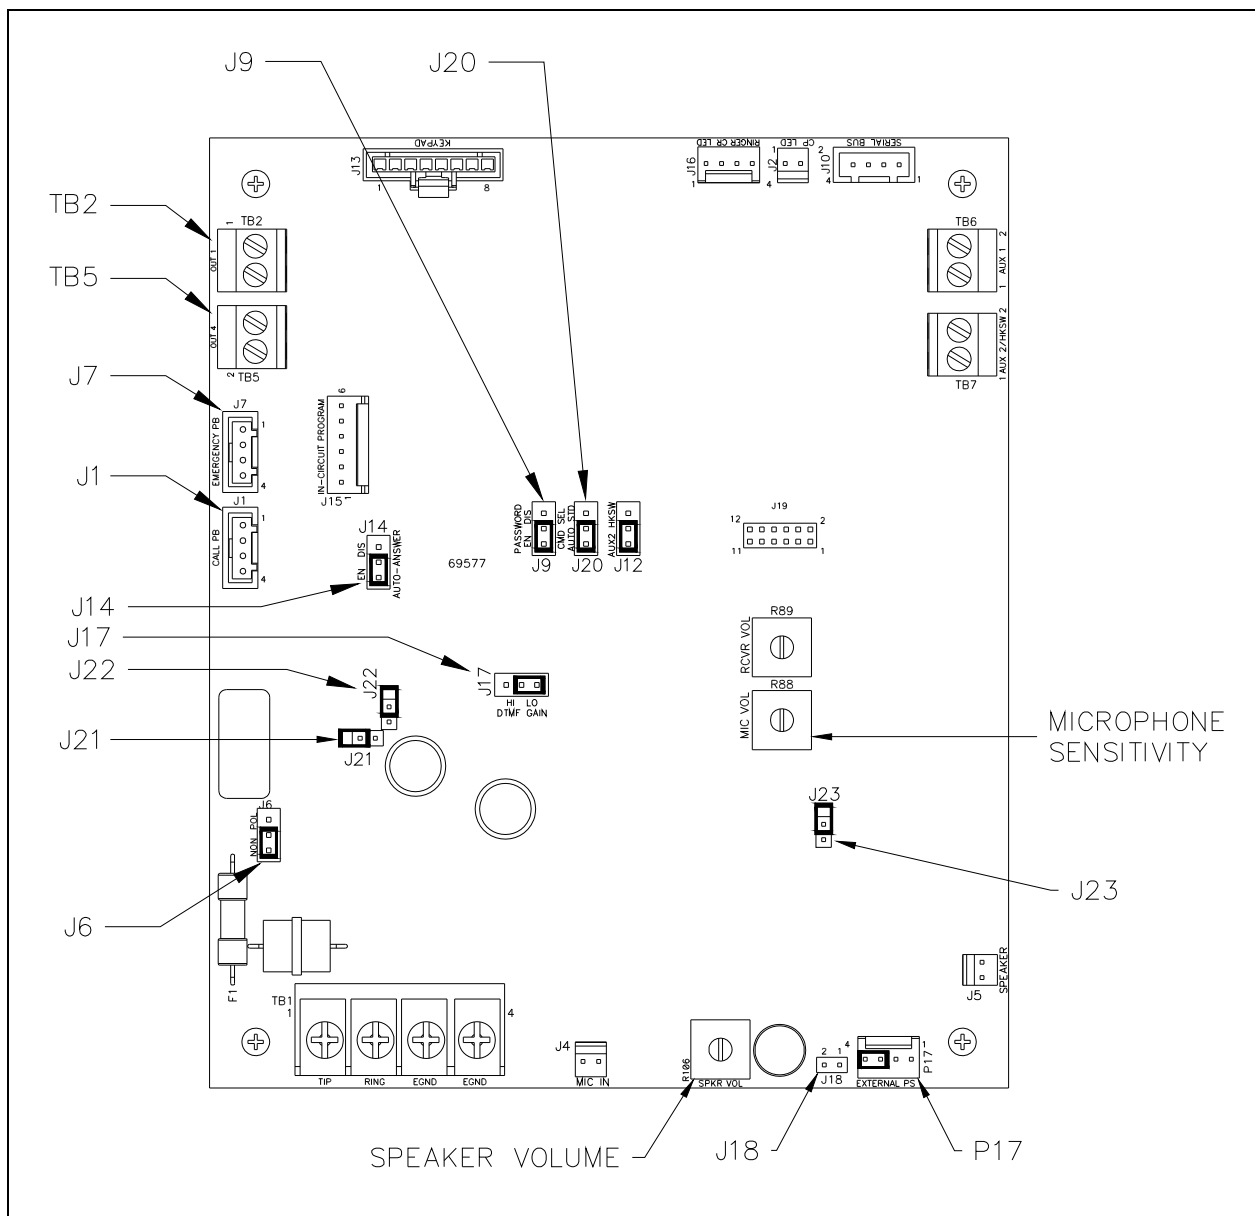

Figure 12. No. 69577-101 Emergency Telephone PCBA (Top View)
2. Adjust the audio levels, if necessary (see Figure 12 for the speaker volume and microphone sensitivity potentiometer locations).
2. Adjust the audio levels, if necessary (see Figure 12 for speaker volume and microphone sensitivity potentiometer locations).
The hardware configuration options are explained in the following sections and the necessary jumper settings are identified to enable or disable each option. Read each section and record the selected options (see Table 2) prior to making the necessary changes (see Figure 12 for the jumper locations).
Each telephone includes two isolated solid-state switches capable of switching a maximum of 125 mA at 48 V dc, or 80 mA at 28 V ac. TB2 (OUT1) and TB5 (OUT4) on the emergency telephone PCBA provide the connections for the auxiliary outputs (see Figure 12).
Output one connects to terminal block TB2 on the telephone's PCBA (see Figure 12). This output closes when an emergency call begins (HELP push button activation only) and remains in that state for the duration of the telephone call. The typical use of this output is to activate the flashing sequence on a GAI-Tronics strobe.
Output four connects to terminal block TB5 on the telephone's PCBA (adjacent to TB2). This output is remotely controlled by a DTMF command from the called telephone. This remote-control output can be used to activate or control a door latch, gate relay solenoid, alarm, etc. from the called party location (see Figure 12).
RED ALERT® telephones that do not include an integral keypad require a No. 51035-011 Keypad and No. 61504-048 Keypad Cable Assembly (purchased separately) to program these units locally (see Figure 12).